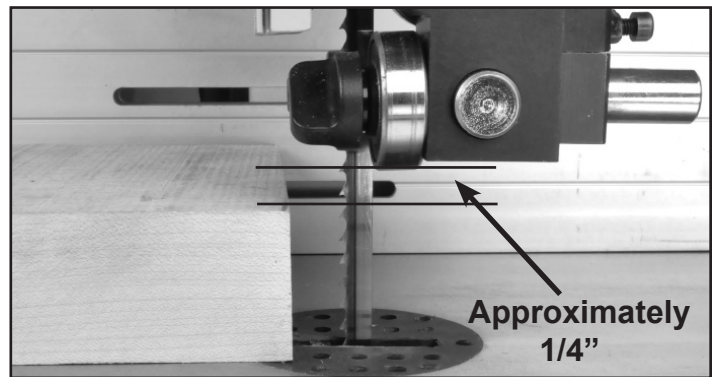

FIGURE 28
**NOTE:** Before cutting, set the upper guide bearings approximately  $1/4$ " above the top surface of the work piece. This will give the best blade control. Fig. 28.